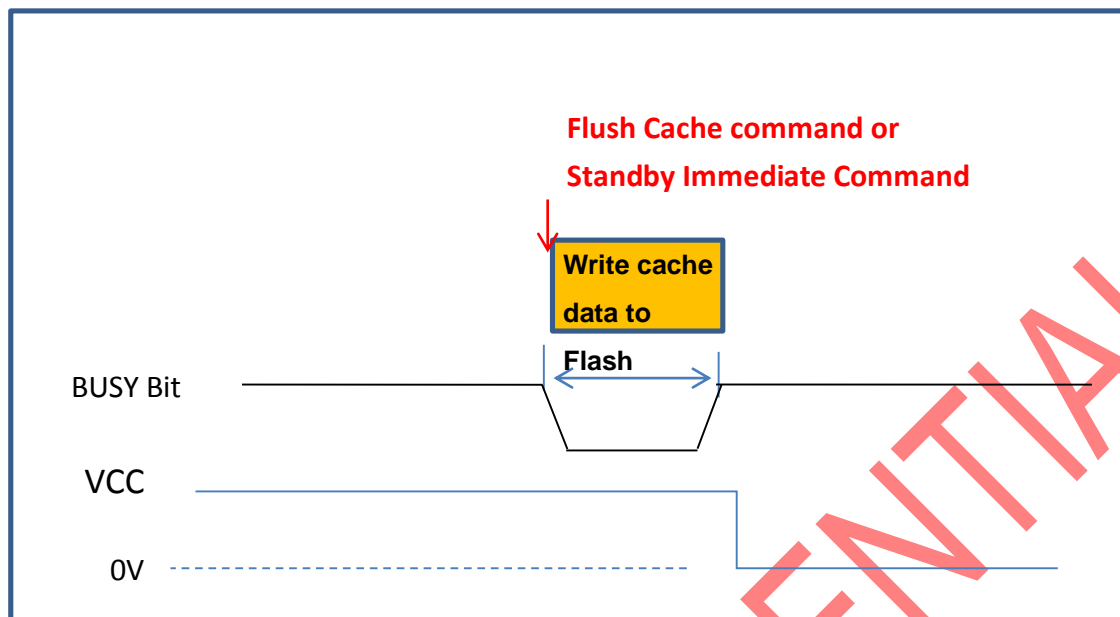

Figure 2 Power off sequence
**Note:** Power off without Flush Cache command or Standby Immediate Command in advance may cause cache buffer data which received from host and waiting for programming lose. Please implement the power off sequence as the process in the Figure 2 to prevent the data loss